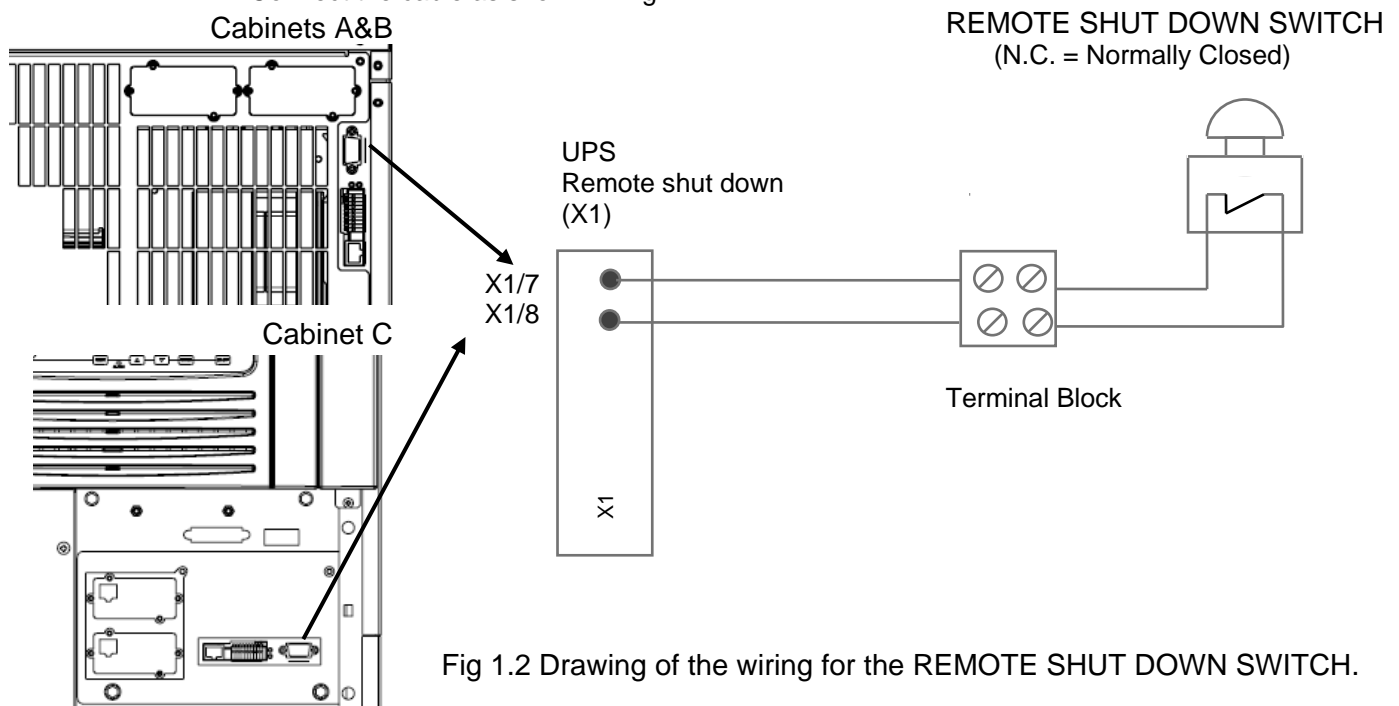

Fig 1.2 Drawing of the wiring for the REMOTE SHUT DOWN SWITCH.
2. Connect the cable as shown in Fig. 1.2